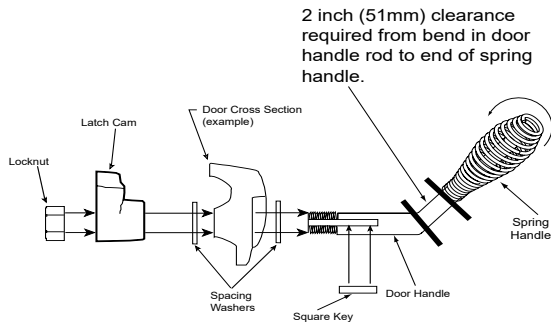

Figure 24.1
3. Install second washer(s) as shown in **Figure 24.1**.
7. Install spring handle turning in a counter-clockwise motion to **required** 2 inch (51mm) clearance location on door handle rod (**Figure 24.1**).